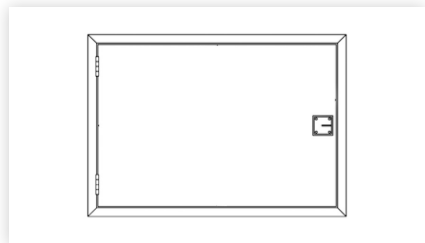

figure 6
3. You may choose to prepare the lid for painting by putting 1-2 coats of primer now as it is easier than later, when the unit is in the ceiling. (Figure 6)